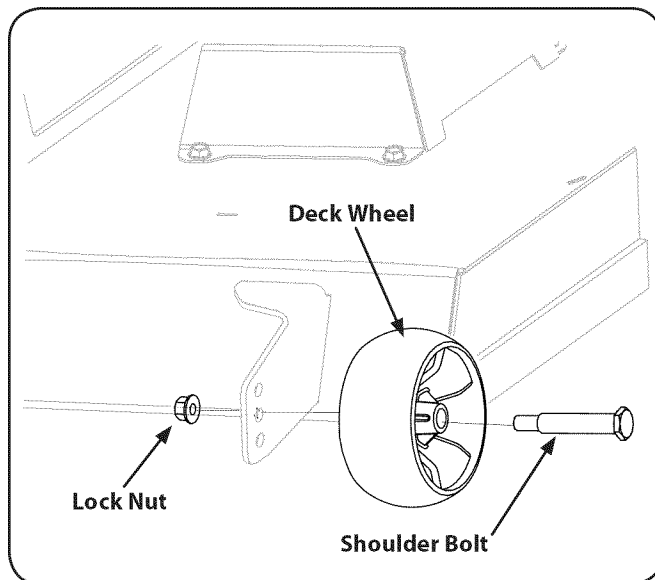

Figure 6-7
- b. Remove the front and rear deck wheels by removing the lock nuts and shoulder bolts which secure them to the deck. See Fig. 6-7.